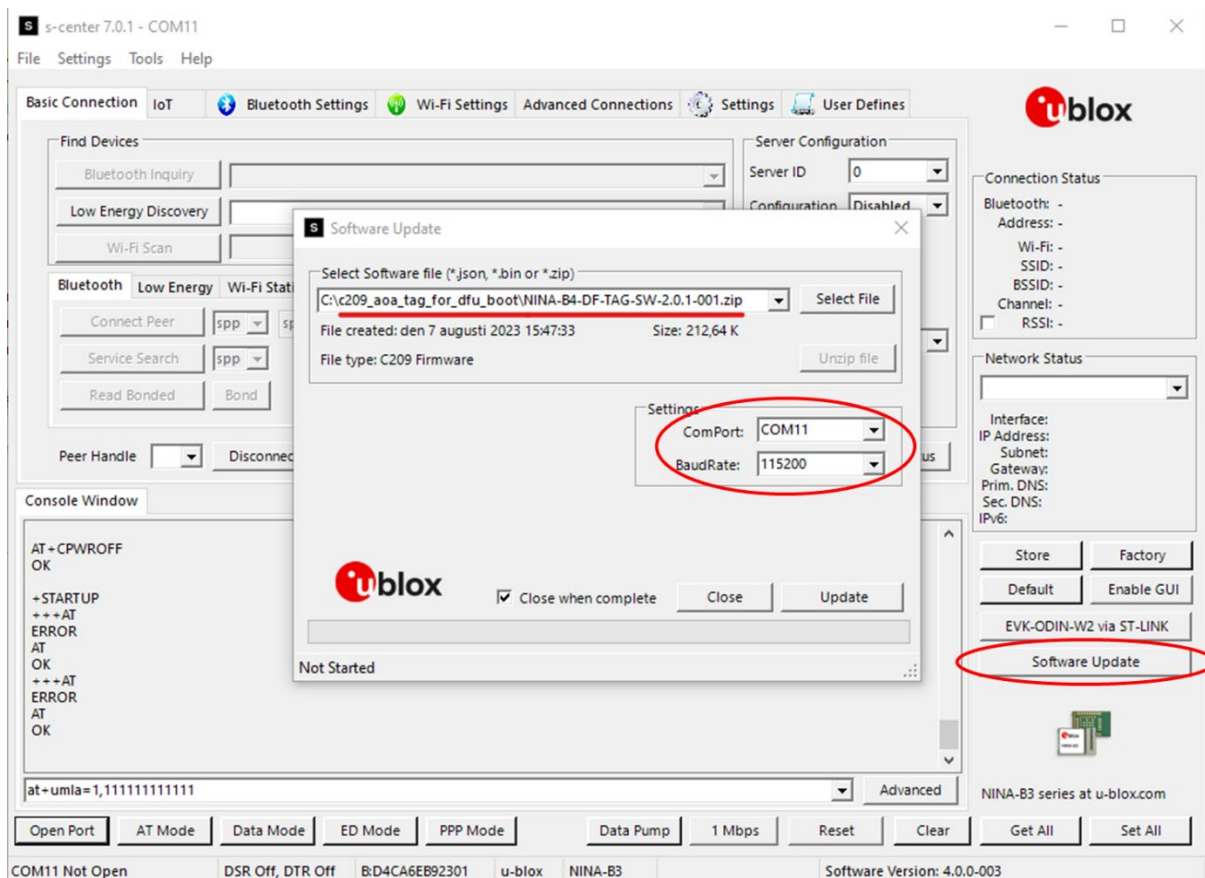

Figure 13: Updating the SW on the C209 board via s-center
3. In the “Software Update” dialogue, select a zip file from one of the folders ending in “for\_dfu\_boot”, as shown in Figure 13. Make sure the flashing speed is set to 115200.